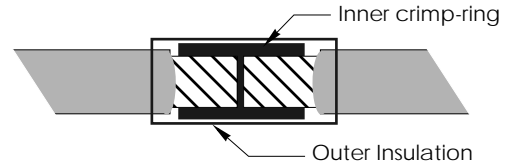

Figure 2 Crimp Inner Conductors
5. Match and butt the stripped ends of the two black wires inside the butt-connector as shown in Figure 2. Crimp connector with crimping tool.